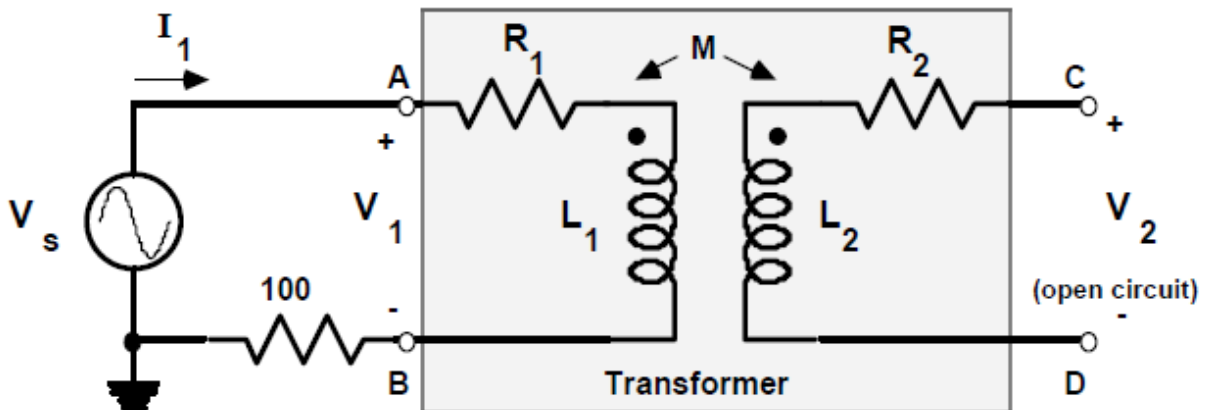

Figure 6
(1) The small power transformer used in this experiment is designed for 110V rms on the primary, producing a smaller rms on the secondary. Because in our laboratory we have two different types of transformers, first identify the rated voltage on the secondary. Determine the primary and secondary winding resistances R_1 and R_2 by using the multimeter to measure the DC resistance of the primary and secondary.
(2) Assemble the circuit of Figure 6. Adjust the function generator for a 60 Hz sinusoid with amplitude sufficient to produce a 2V peak-to-peak signal across the 100Ω series resistor. Measure the voltage across the primary [A-B] and the voltage across the secondary [C-D] in order to determine the turns ratio, n .